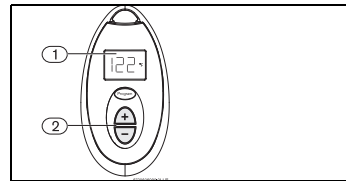

Fig. 11 Temperature adjustment
- ▶ Press the buttons  $\oplus$  or  $\ominus$  on the remote control (Fig. 11, pos. 2) until the required temperature
appears on the remote control display (Fig. 11, pos. 1).